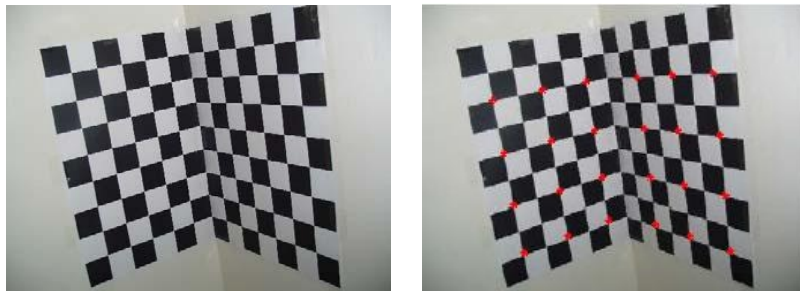

Figure 1: Checkerboard mounted on wall corner (left) and manually defined points in the camera image (right).
1. Calibrate your own camera with a fixed focal length with two orthogonal checkerboard planes (see Fig. 1). Real world coordinates are measured via a tape measure or ruler relative to a world coordinate origin of your choice and stored in a file. Corresponding pixel locations are obtained in the image, e.g. by using MATLAB function `ginput()` to acquire image positions with mouse clicking, and show clicked position with function `plot()`. This gives us the list of points in world space $P_i = (x, y, c)^T$ and associated points in image space $p_i = (u, v)^T$.